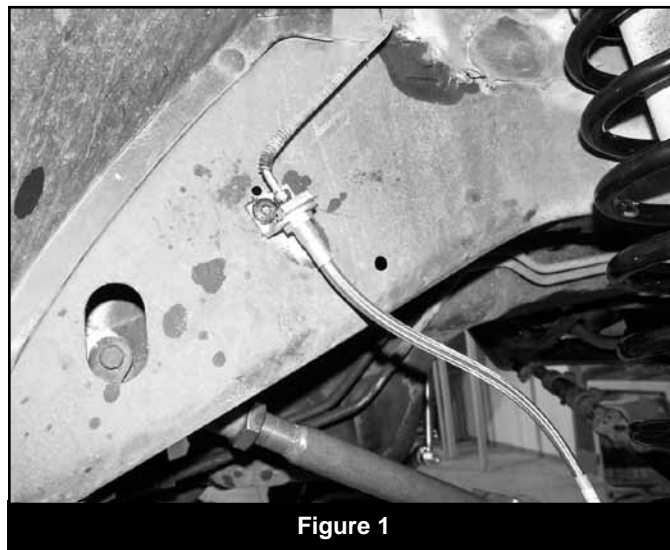

Figure 1
13. Install new upper brakeline bracket with OE bolt. (Fig 1)
15. Install BDS front brake line (22510) by attaching upper portion first. Torque to 20 ft-lbs. (Fig 1)